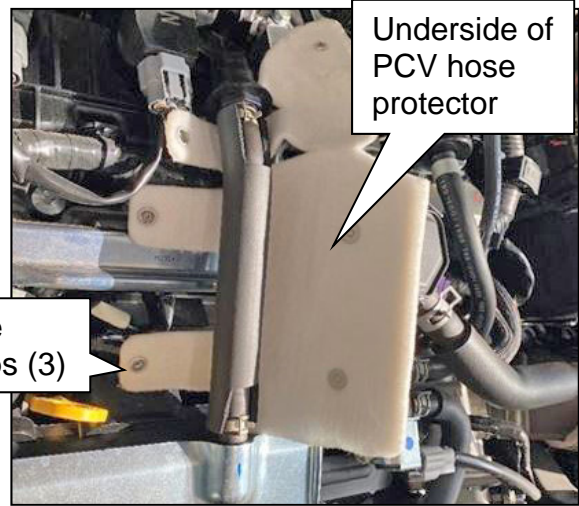

Figure 3
- Slide the three (3) PCV hose protector straps underneath the PCV hose, as shown in Figure 3.